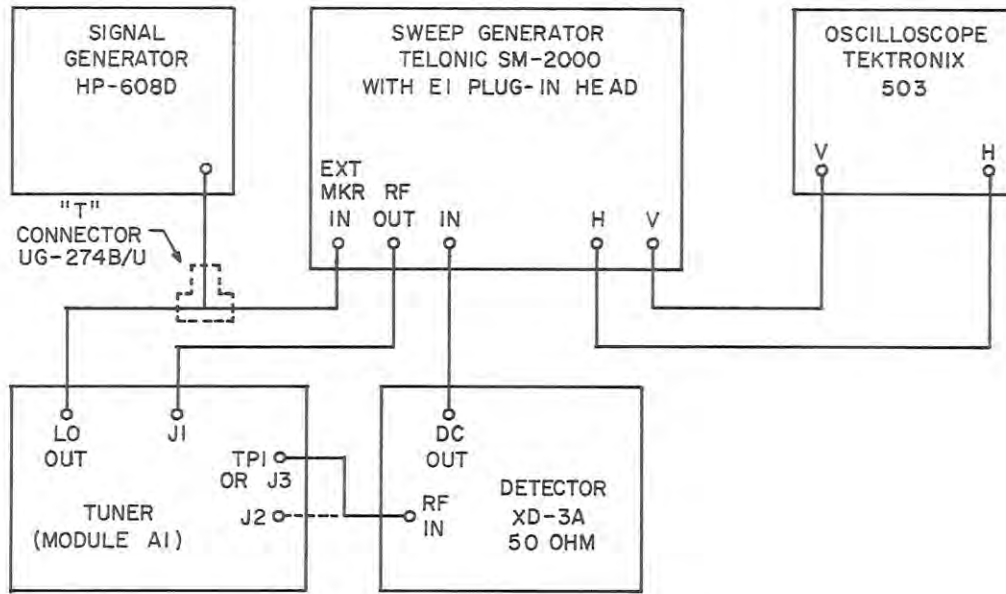

Figure 5-5. 250-500 Mc RF Tuner Test Set-Up.
- (1) 250 to 500 Mc Tuning Head, SH-203A-7, Alignment
- Connect test equipment as shown in Figure 5-5.
- Adjust the vertical sensitivity of the oscilloscope to 1.0 mv/cm. Adjust horizontal sensitivity as required for full scale deflection. Connect the detector to TP1 as illustrated in Figure 5-5.
- l. The marker should remain centered on the response waveform over the tuning range and the response waveform shape should remain essentially as illustrated in Figure 5-5. Slight re-adjustment of the capacitors in step j. may be necessary to obtain a suitable response over the tuning range.